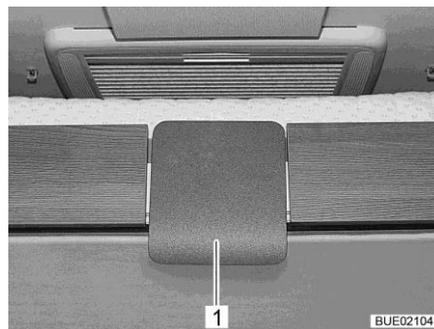

Fig. 138 Release plate on the pull-down bed (Ixeo I)
- Pull-down bed with latching mechanism: pull lower part at the release plate (Fig. 138,1) and pull pull-down bed downwards as far as it will go.